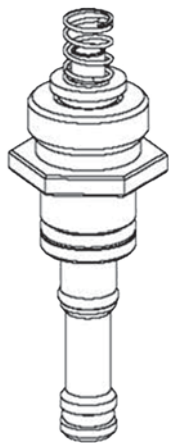

Figure 7.3b
7. This sub-assembly (Figure 7.3b) is ready to be installed into the appropriate pilot control.